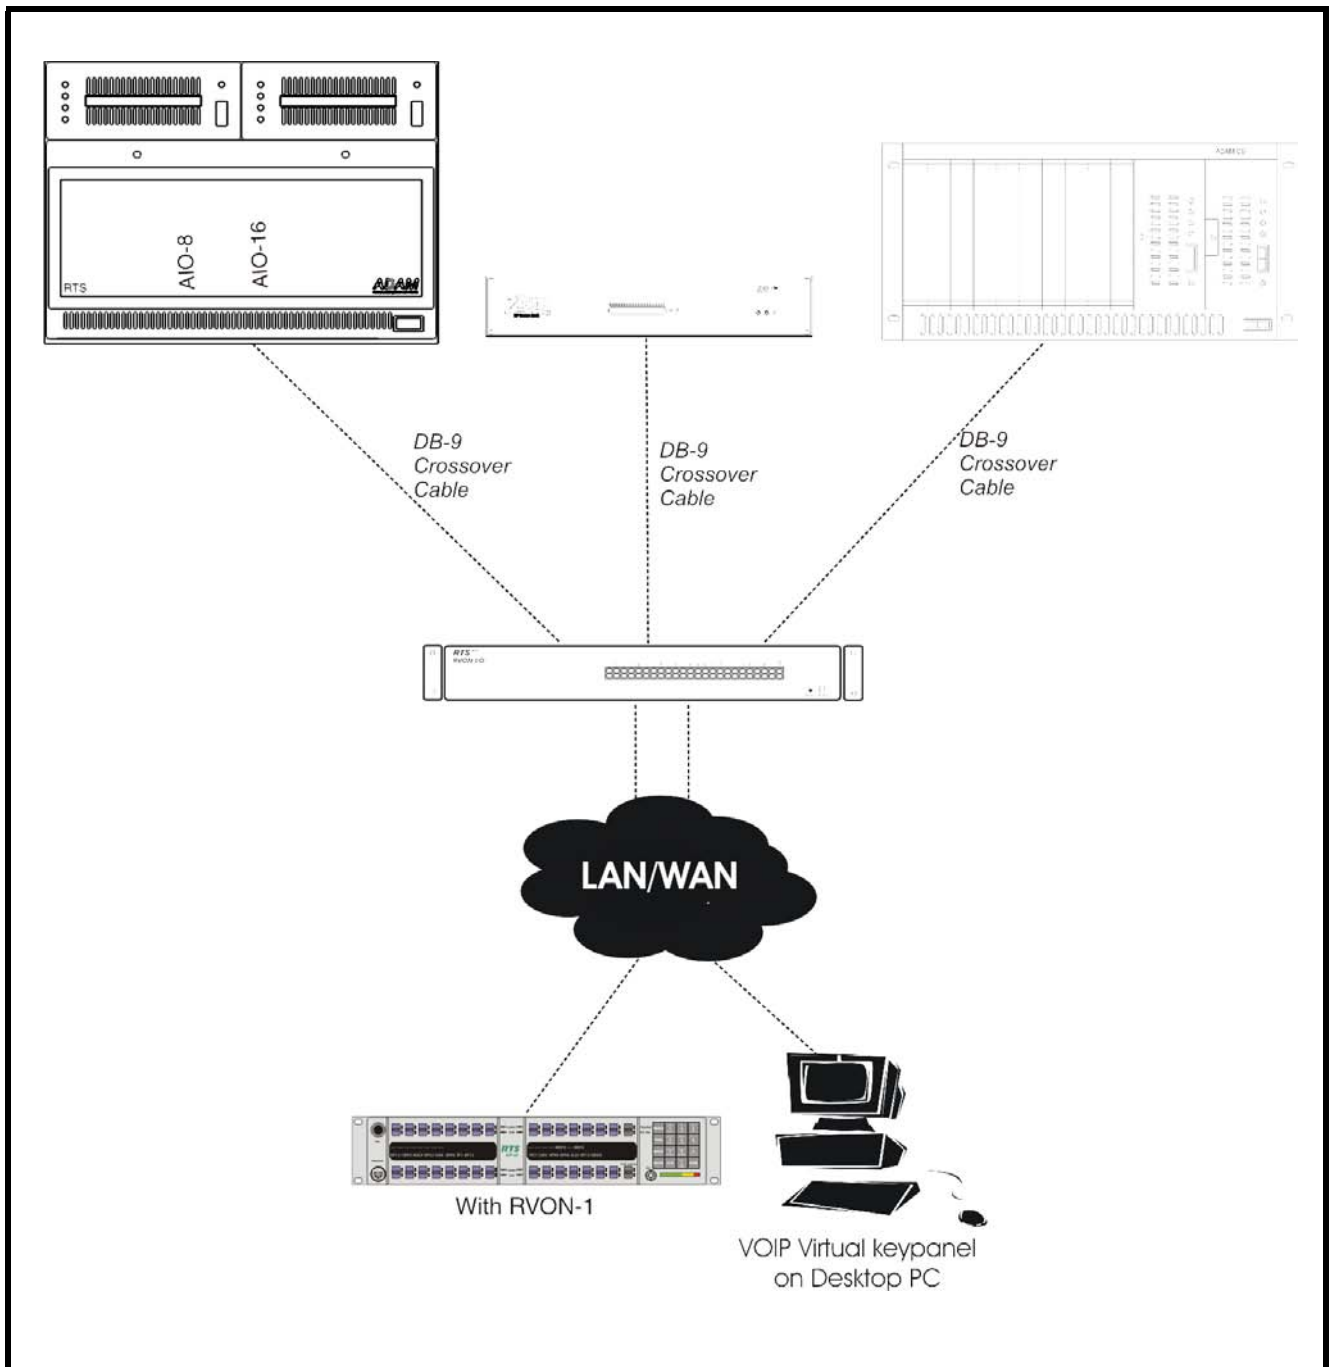

FIGURE 10. Remote Mode
When you trunk two (2) intercom systems together using two (2) RVON-I/O's, configure both in Remote Mode (see Figure 10 on page 13).